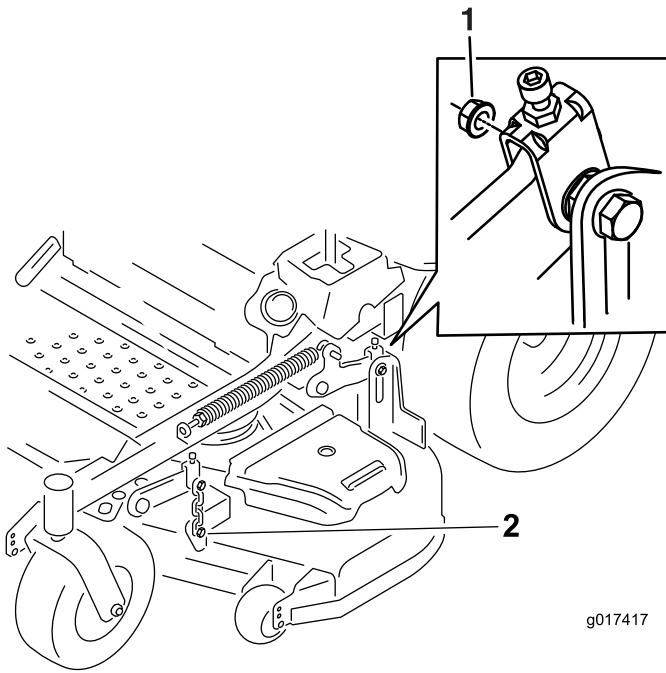

Figure 86
7. Remove and retain the hardware on both sides of the deck as shown in Figure 86.